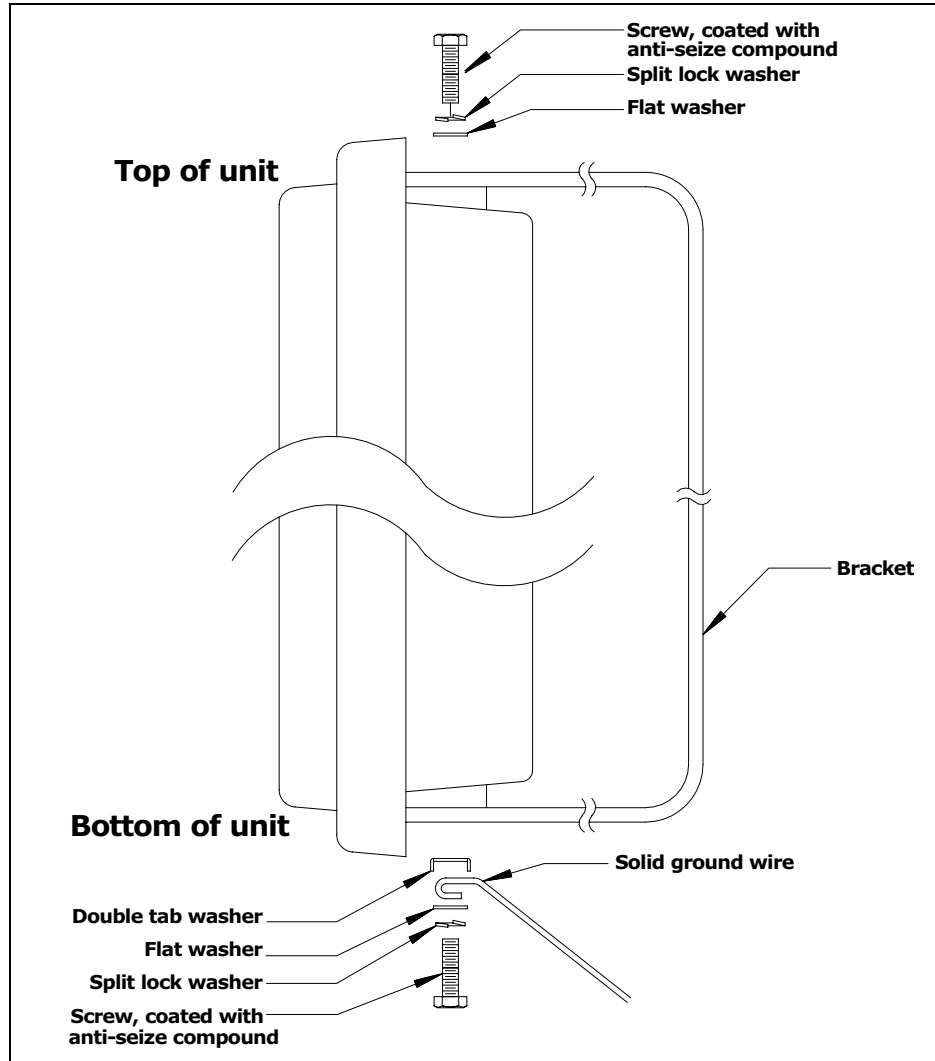

Figure 9 Mounting bracket screw assembly
Figure 9 illustrates how the screw, split lock, flat washer and double-tab washer are put together.
- 1** For the top of the mounting bracket, assemble the screw (coated with anti-seize compound), split lock washer and flat washer as shown in Figure 9.
- 2** For the bottom of the mounting bracket, assemble the screw (coated with anti-seize compound), split lock washer, flat washer, ground wire, and double-tab washer, as shown in Figure 9.